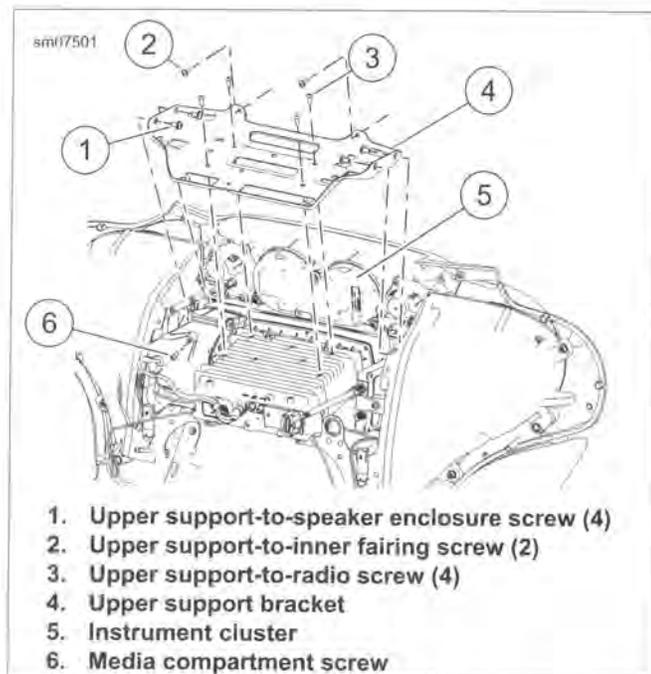

Figure 7-84. Upper Support Bracket
4. See Figure 7-84. Install upper support bracket (3). Tighten upper bracket screws in the sequence shown in 2.39 INNER FAIRING, Upper Support Bracket.